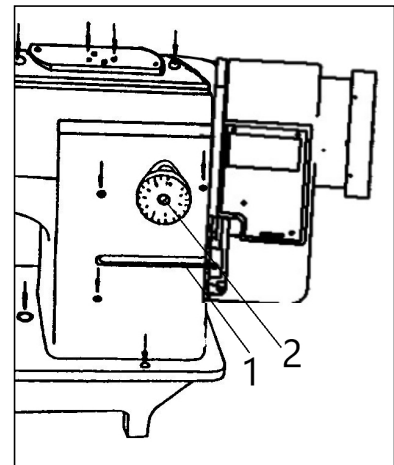

Fig.11
12. STITCH LENGTH ADJUSTMENTS AND REVERSING LEVER (Fig.11)